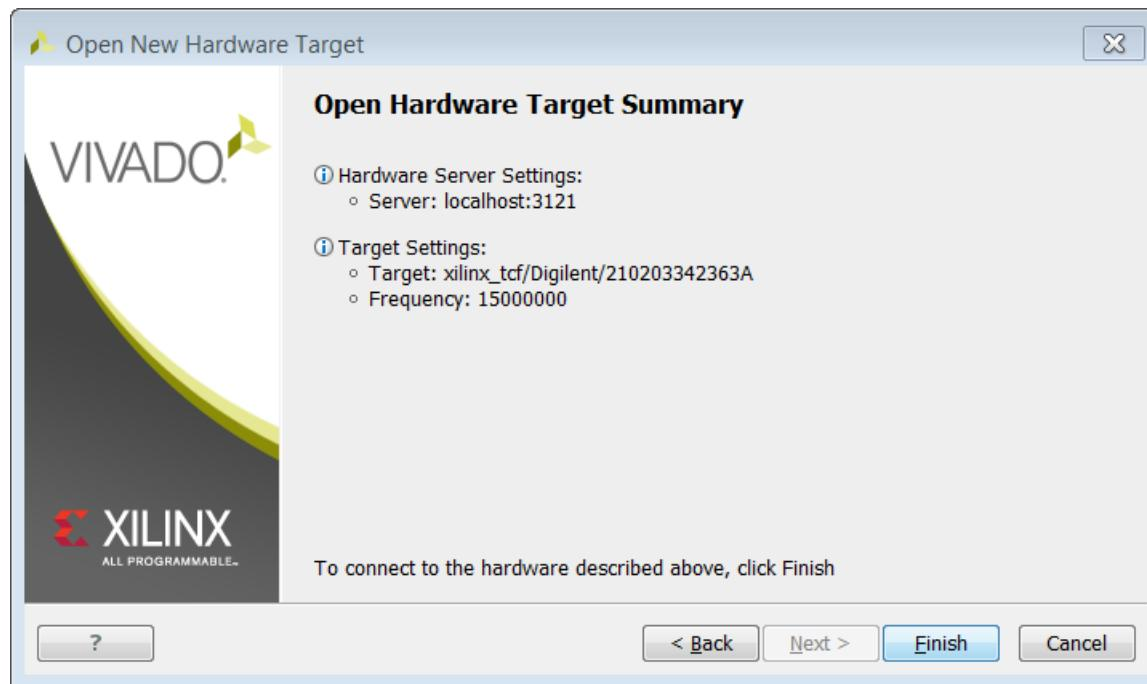

Figure 78: Open Hardware Target Summary
6. Ensure that all the settings are correct on the **Open Hardware Target Summary** dialog box, as shown in Figure 78 and click **Finish**.